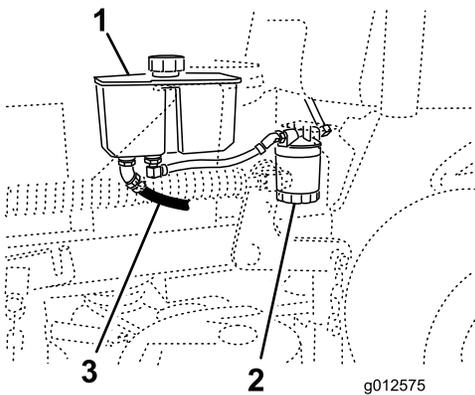

Figure 73
4. Locate the front hydraulic hose under the hydraulic tank and place drain pan under the tank (Figure 73).